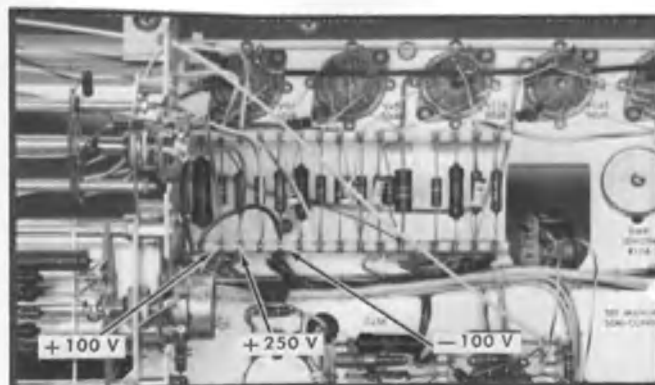

Fig. 6-7. Test point locations for checking 30 kHz power supply ripple.
h. Move the $1\times$ probe to the -100 V test point indicated in Fig. 6-7. (The test points indicated in the figure were selected to avoid excessive 30 kHz ripple from the 30 kHz power oscillator.)
- l. Repeat steps (h) and (k) for the +100 V, and +250 V, referring to Fig. 6-7 for the location of the test points.